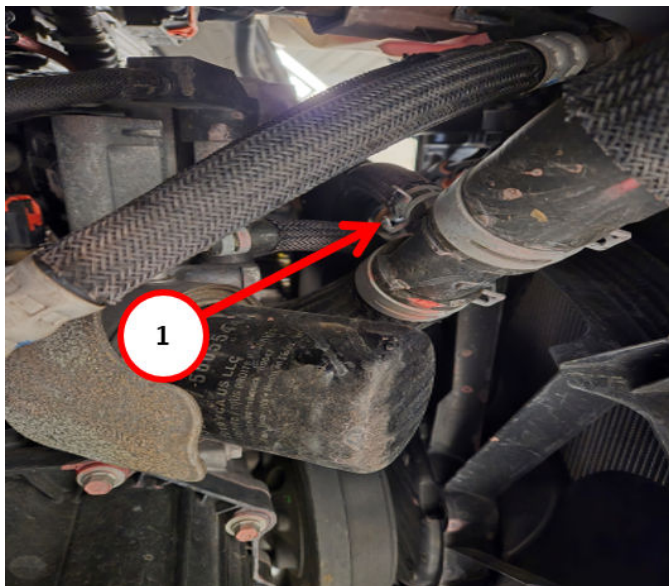

**Fig. 1**
3. Close the radiator draincock Fig. 1.